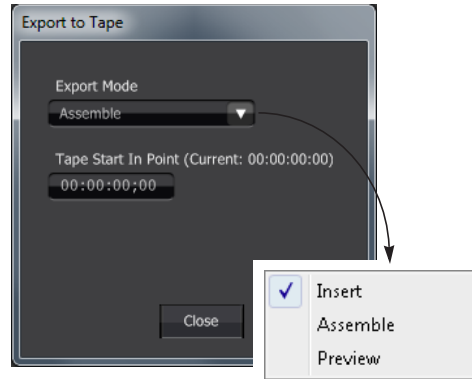

Figure 7-14: Export to Tape.
- 2 To access the Export to Tape settings (Figure 7-14), choose *File menu > Export > Export to Tape*.
- 3 Choose the desired Export Mode (see explanations below) and specify the insert time in the timecode field provided (Figure 7-14).
- 4 Click the Export button (Figure 7-14) to begin the export operation.